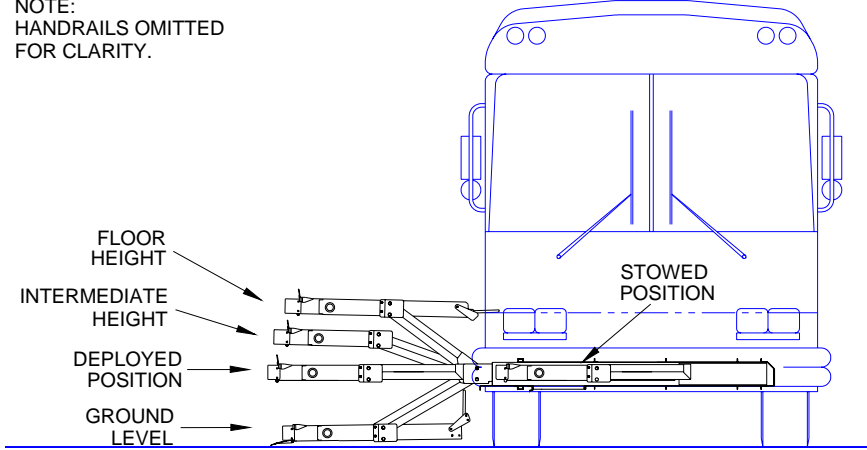

FIGURE 2-2: PLATFORM POSITIONS
Refer to **Table 2-1** and **Figure 2-2**. The table describes the four platform motions, and the figure shows the four typical platform heights plus the stow position.
- Open passenger entry door directly above lift compartment. This does not apply to models that stop upward platform movement prior to reaching floor level. The entry door on these models is opened after the platform reaches intermediate height (refer to Figure 2-2).
NOTE: The next two steps apply only to F9TF models that stop upward platform movement at an intermediate level (refer to Figure 2-2). Other models continue at step 9.
NOTE: The next two steps apply only to F9TF models that stop upward platform movement at an intermediate level (refer to Figure 2-2). Other models continue at step 6.